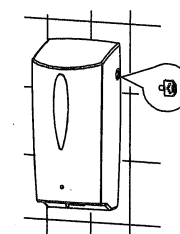

Fig.6
9. Use key to lock casing. (Fig. 6)